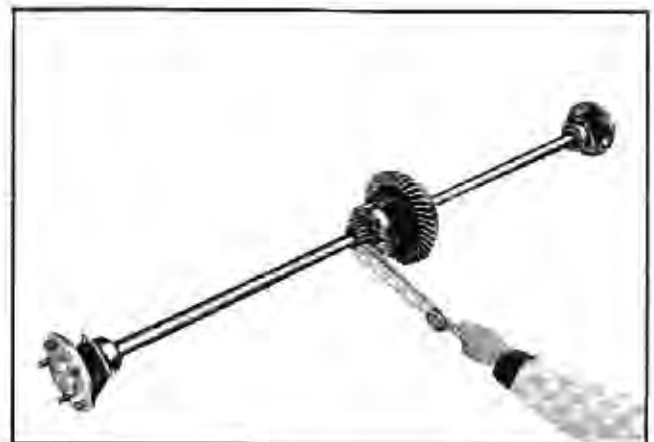

Fig. 4-69 Torquing Differential Case Half Bolts
8. With these axle shafts in position, tighten the differential case bolts evenly, and alternately to 40 lb ft. torque, (Fig. 4-69). Remove the axle shafts.